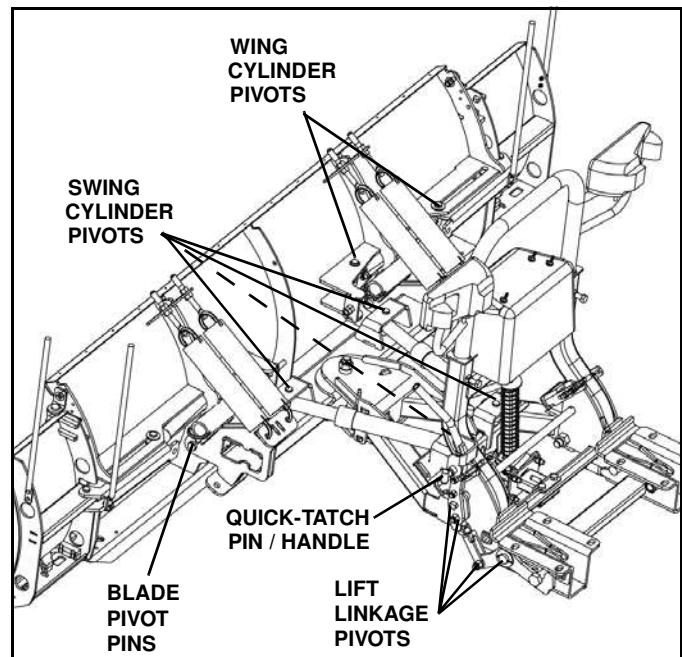

Figure 1-41
3. Apply a small amount of light oil to: attachment pin and handle assemblies, pivot pins between the blade and swing frame, and pivot pins at lift, swing and wing (MBR Series only) cylinders. Also lubricate jackstand pins. (See Figure 1-41).